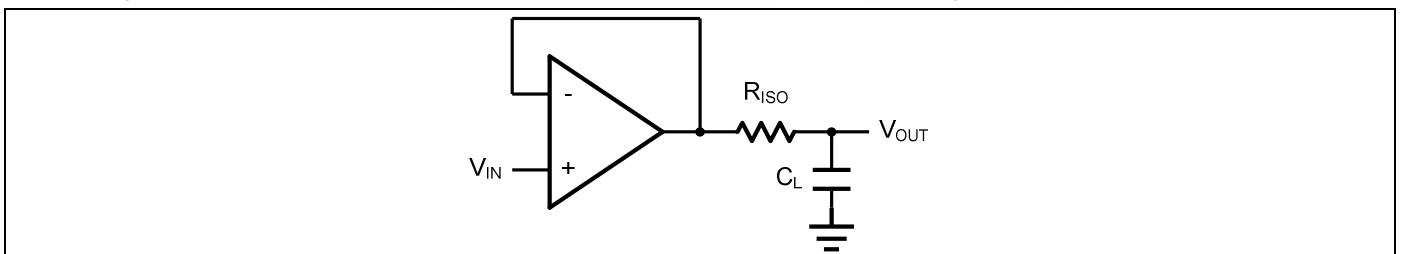
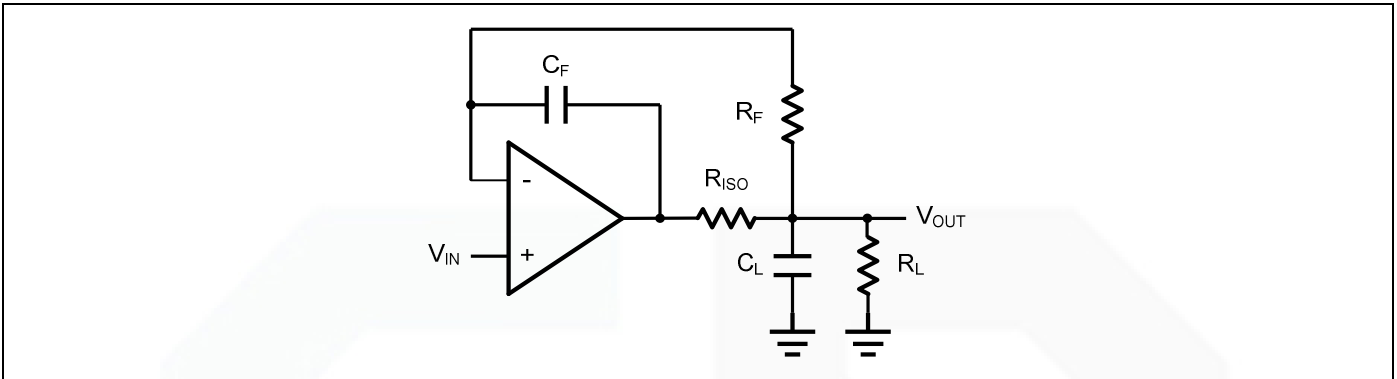

Figure 2. Indirectly Driving a Capacitive Load Using Isolation Resistor
Figure 3. Indirectly Driving a Capacitive Load with DC Accuracy
The LMV321/358/324 family is optimized for bandwidth and speed, not for driving capacitive loads. Output capacitance will create a pole in the amplifier's feedback path, leading to excessive peaking and potential oscillation. If dealing with load capacitance is a requirement of the application, the two strategies to consider are (1) using a small resistor in series with the amplifier's output and the load capacitance and (2) reducing the bandwidth of the amplifier's feedback loop by increasing the overall noise gain. Figure 2. shows a unity gain follower using the series resistor strategy. The resistor isolates the output from the capacitance and, more importantly, creates a zero in the feedback path that compensates for the pole created by the output capacitance.
The circuit in Figure 3 is an improvement to the one in Figure 2. R_F provides the DC accuracy by feed-forward the V_{IN} to R_L . C_F and R_{ISO} serve to counteract the loss of phase margin by feeding the high frequency component of the output signal back to the amplifier's inverting input, thereby preserving the phase margin in the overall feedback loop. Capacitive drive can be increased by increasing the value of C_F . This in turn will slow down the pulse response.